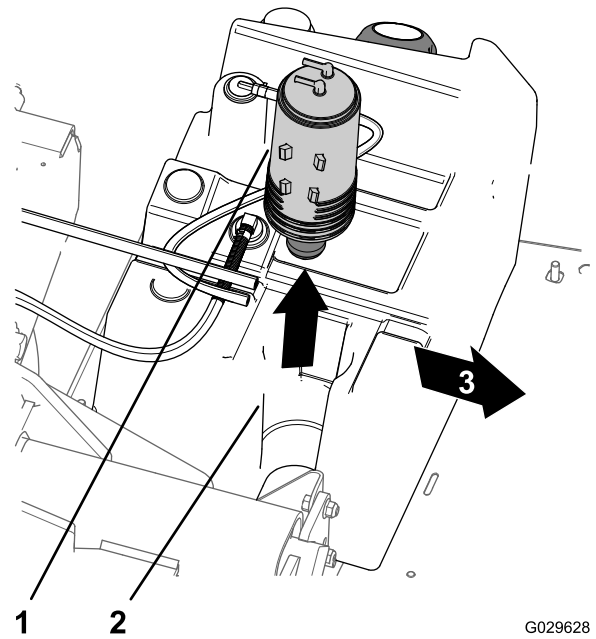

Figure 46
3. Lift the carbon canister from the carbon-canister mount in the fuel tank (Figure 46).
7. Insert the new carbon canister into the carbon-canister mount of the fuel tank with the purge and fuel tank fittings aligned rearward (Figure 46).